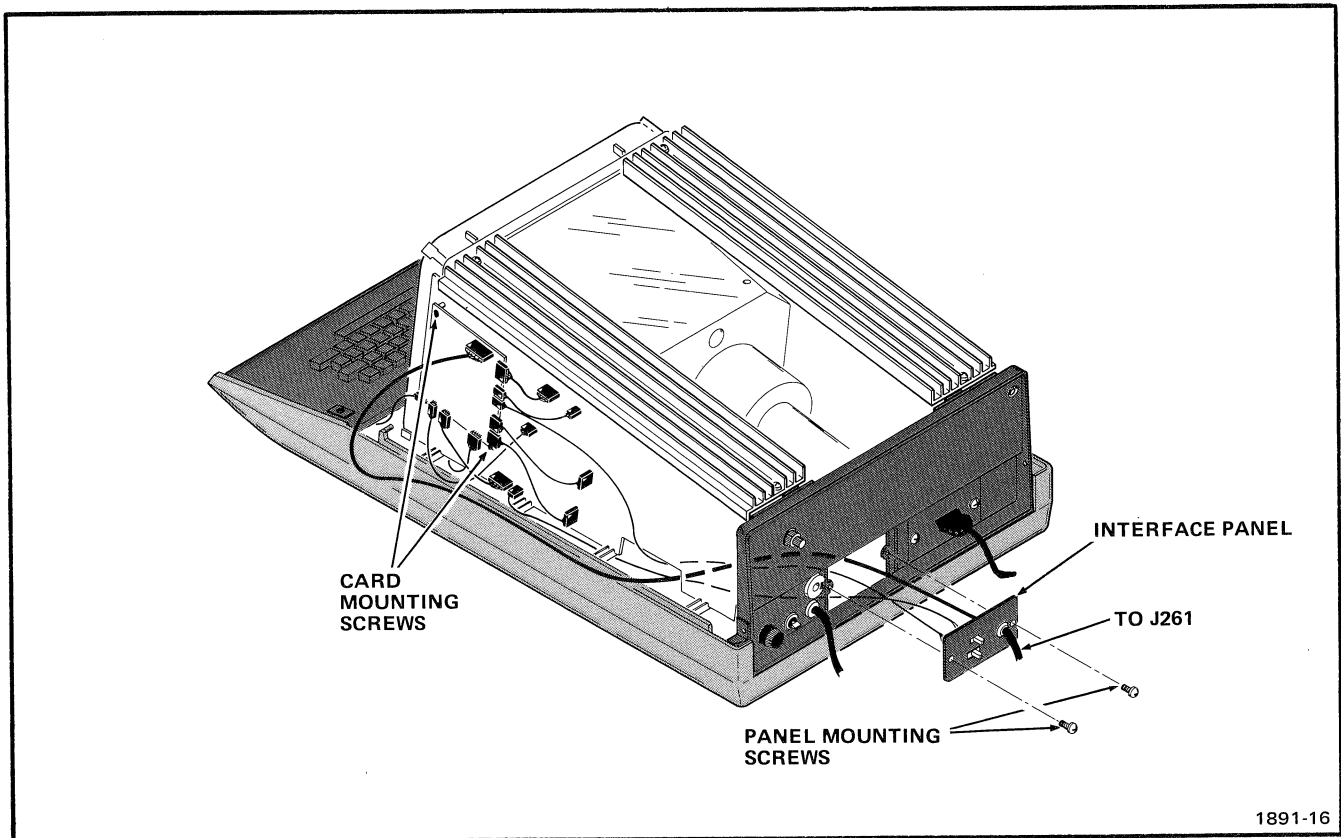

Fig. 4-5. Half-Duplex Card Installation.
7. Position the half-duplex card on the spacers and secure the card using two screws. (See Fig. 4-5).
9. Connect the cables from the half-duplex card to the logic card (see Fig. 4-5) as follows: